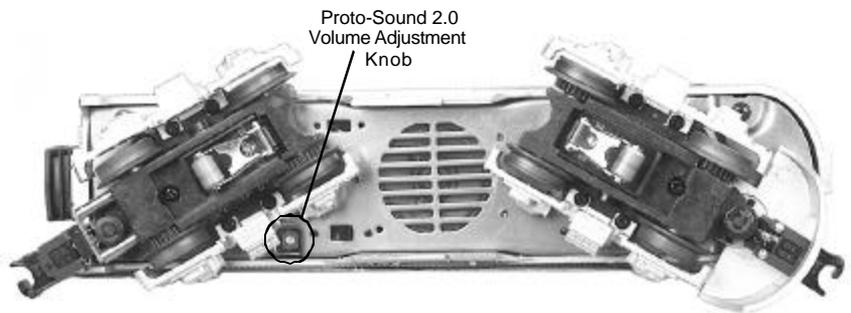

Figure 4. Location of the Proto-Sound 2 Volume Adjustment Knob
- Volume Control** – To adjust the volume of all sounds made by this engine, turn the master volume control knob located under the engine clockwise to increase the volume and counter-clockwise to decrease the volume (see Fig. 4).